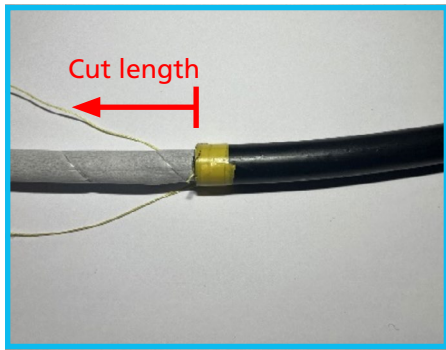

Figure 4.1
1. Markup the cable at the length detailed in **table 1** and remove the outer sheath and steel tape armour **[figure 4.1]**.